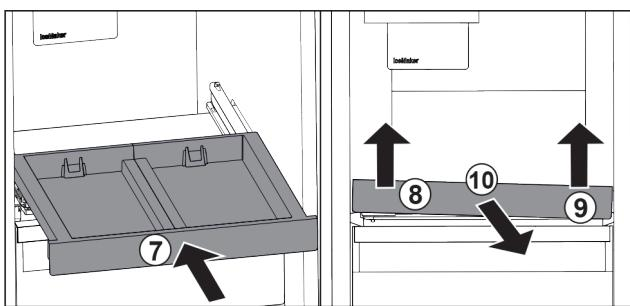

Fig. 96
- Slide in the pull-out board. *Fig. 96 (7)*
- Lift the pull-out board at the front left. *Fig. 96 (8)*
- Lift the pull-out board at the front right. *Fig. 96 (9)*
- Take out the pull-out board to the front. *Fig. 96 (10)*